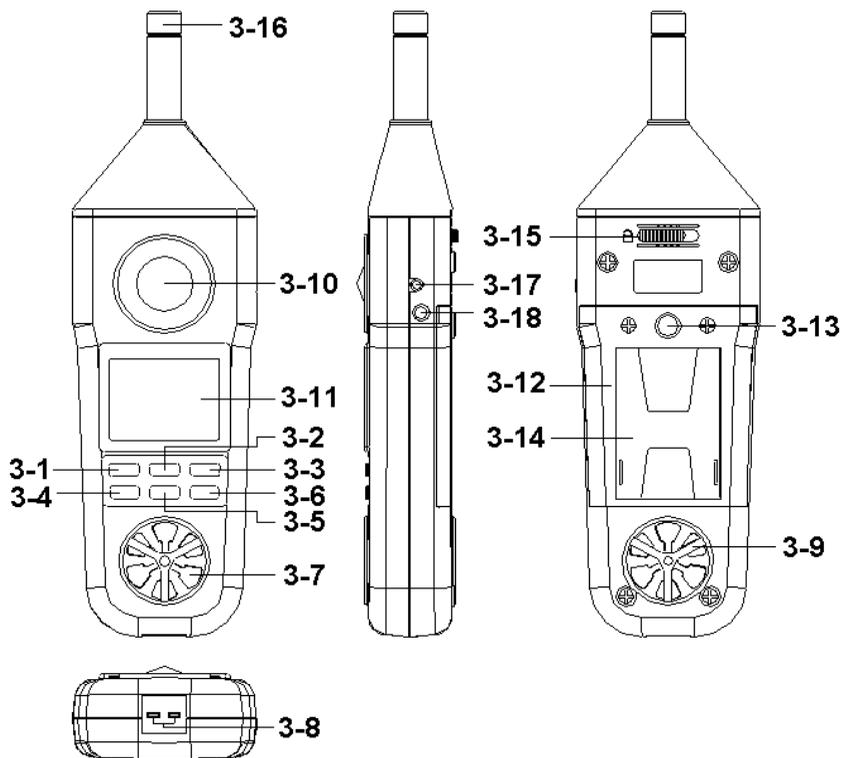

Fig. 1
- 1) Power on the instrument by pressing the " Power Button " ( 3-1, Fig. 1 ).
- 2) Select the Anemometer function by pressing " Function Button " ( 3-6, Fig. 1 ) until the display show the the Anemometer unit ( ft/min, m/s, km/h, MPH, knots ).
- 3) Press the " Unit/Zero Button " ( 3-4, Fig. 1 ) to select unit that you want and then face the " Air Flow Sensor " ( 3-7, Fig. 1 ) to the source of wind.
- 1) Power on the instrument by pressing the " Power Button " ( 3-1, Fig. 1 )..
- 2) Plug a type K thermocouple probe ( optional ) in the " Thermocouple Input Socket " ( 3-8, Fig. 1 ).
- 3) Select the Temperature function by pressing " Function Button " ( 3-6, Fig. 1 ) unit the Display only show the Temp. unit ( °C or °F ).
- 2) Select the Relative Humidity function by pressing " Function Button " ( 3-6, Fig. 1 ) until the Display show the unit ( %RH ).
- 3) The reading value of humidity and temperature that are sensing from the " Humidity Sensor " ( 3-9, Fig. 1 ) will be displayed on the LCD display.
- 2) Select the Light Measurement function by pressing the " Function Button " ( 3-6, Fig. 1 ) until the light unit ( Lux, Ft-cd ) is displayed.
- 3) Press the " Lux/Ft-cd Button " ( 3-5, Fig. 1 ) to select measuring unit " Lux " or " Ft-cd ".
- 4) The Display will show the lighting value that sensing from the " Light Sensor " ( 3-10, Fig. 1 )
- \* For best results zero the light sensor prior to use in a dark environment. Placing the light sensor end of the meter under a desktop or flat surface so as to block any light can accomplish this. Then press the "Unit/Zero Button" ( 3-4, fig. 1 ) to set the meter indication to zero.
- 2) Select the Sound Level function by pressing the " Function Button " ( 3-6, Fig. 1 ) until the Sound level unit ( dB ) is displayed.
- 3) Hold the instrument in hand and point the " Sound Probe Head /microphone " ( 3-16, Fig. 1 ) at measured noise source, the sound level value ( dB ) will be displayed on LCD.
Whenever press the "Hold Button (3-2, Fig. 1)" will freeze the current reading value with a "HOLD" symbol on the display.
- 1) The Data Record function records & displays the maximum and minimum reading values. Start the Data Record function by pressing the " Max./Min. Button " ( 3-3, Fig. 1 ) once. There will be a " REC " symbol on the display.
- (a) Press the " Max./Min. Button " ( 3-3, Fig. 1 ) once and the " Max " symbol along with the maximum value will appear on the display.
- (d) Clear the Max./Min. value recorded by pressing the " Hold Button " ( 3-2, Fig. 1 ) once. Previous recorded Max./Min. value will be given up and then revert to the REC. function keep on recording.
The instrument has RS232 PC serial interface via a 3.5 mm terminal ( 3-17, Fig. 1 ).
- 2) Open the " Battery Compartment / Cover " ( 3-12, Fig. 1) and remove the battery.